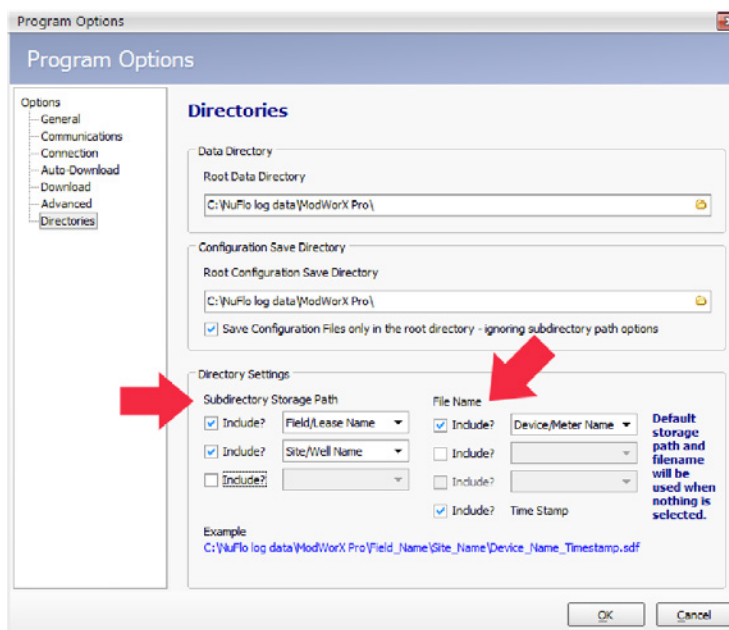

Figure 14.8
3. In the Directory Settings portion of the screen (Figure 14.8, page A-20), select the subdirectory storage path(s) to which you want the file saved. The file will be saved in the order the subdirectories are selected.